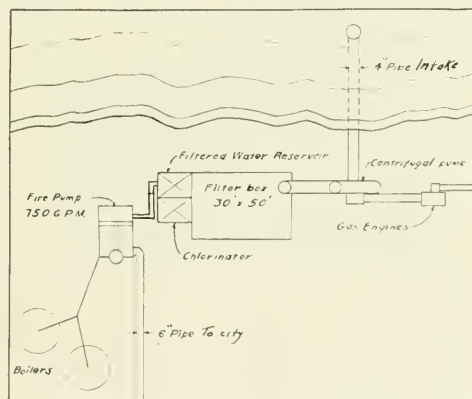

FIG. 3 PLAN OF A TYPICAL FILTRATION UNIT
The arrangement of a typical pumping plant as installed here is shown in Figure 3. The unit consists of (1) feeder pump and suction line, (2) filter, (3) chlorinator, (4) line pump, (5) power plant. The feeder pump is a 1" centrifugal pump with a